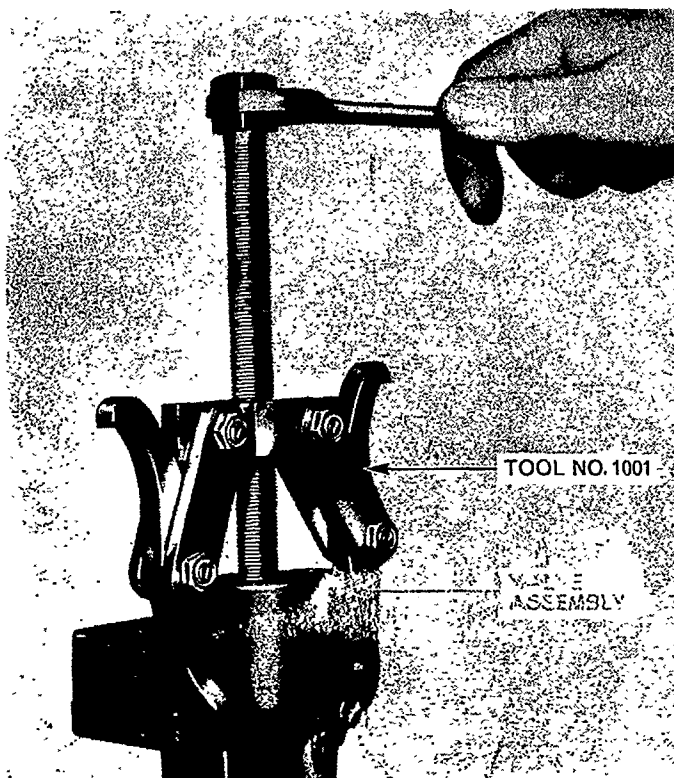

Figure 24
5. Compress the spring in the brake valve by pressing in the rear plate using 1001 puller, Figure 24. Remove the retaining snap ring and then remove the plate, spring and brake piston from the housing.